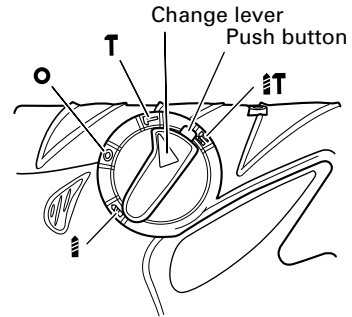

Fig. 9
This rotary hammer can be set to hammering only mode by pressing the push button and turning the change lever to **T** mark. (Fig. 9)
- (3) Turn the change lever to **T** mark. (Fig. 9)